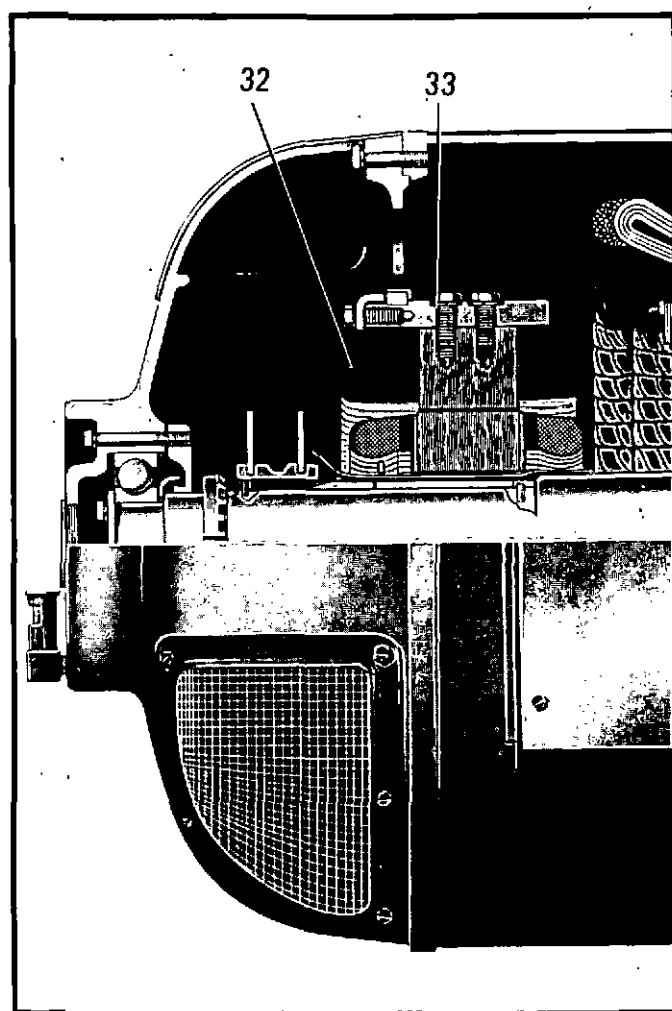

FIGURE 3
1. In one design (see Figures 3 and 8), four or six shunt coils are mounted on a circular steel frame which is bolted to the end frame.